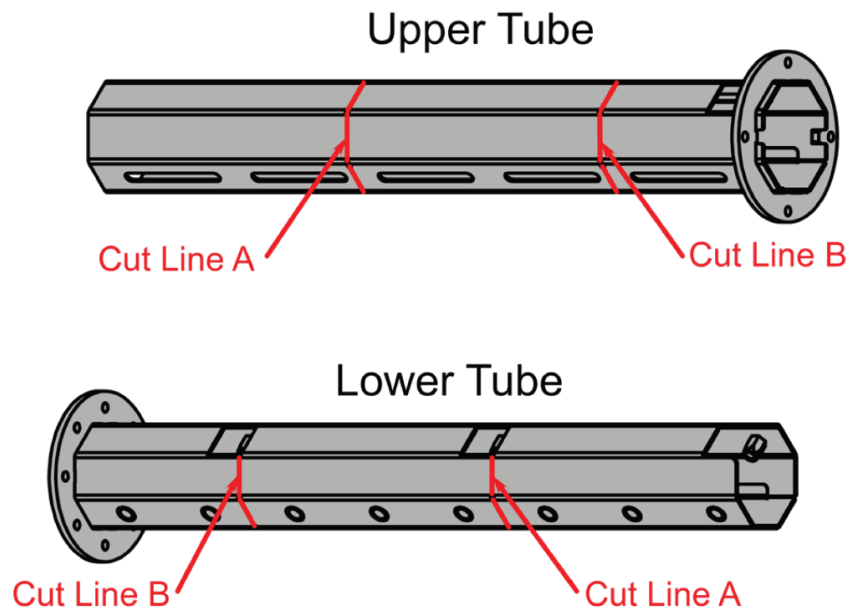

Figure 98: Cut lines for Upper and Lower Tube
- In case a lower height/drop is required, simply cut the upper tube ② and lower tube ③ along the two lines: **Cut Line A** and **Cut Line B** (refer to **Figure 98**).